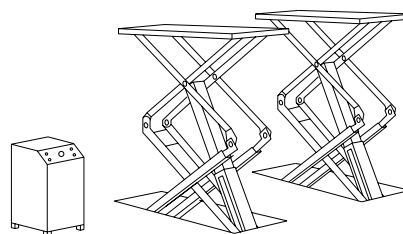

Fig.1
3. BESCHRIJVING HEFBRUG (zie Fig.1)